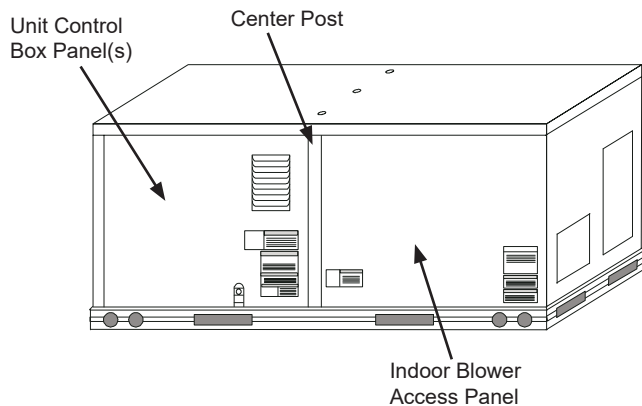

Figure 9 - Typical Indoor Fan Motor Access Panel Locations
Step 13: Remove the indoor blower access panel and the panel(s) covering the unit control box. See Figure 9.